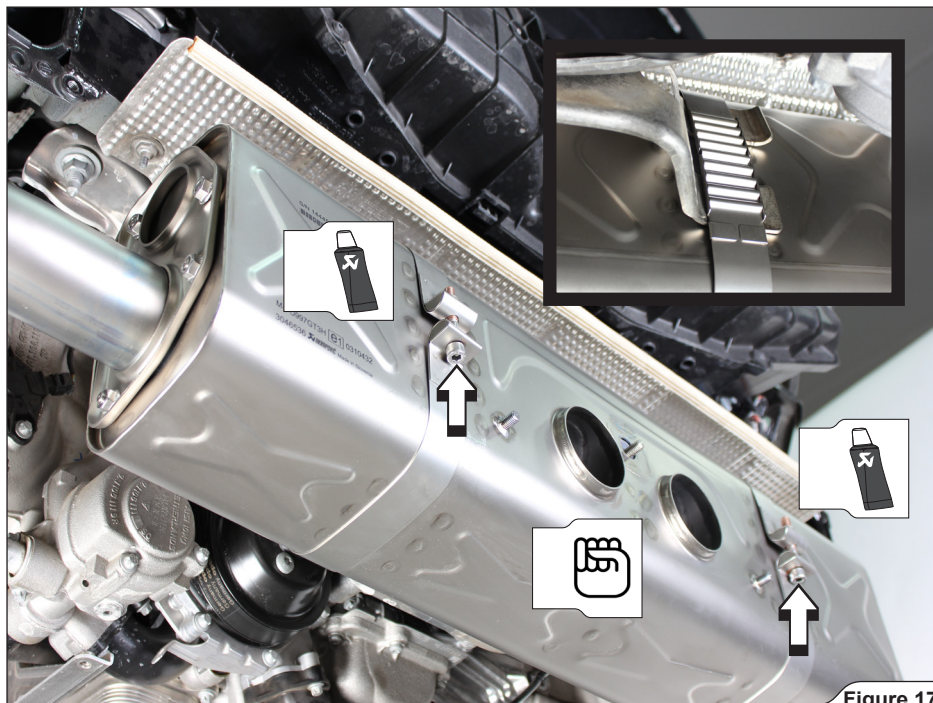

Figure 17
3. Hang Akrapovič central muffler together with link pipes onto the vehicle. Correctly attach stock clamps and hand tighten central muffler clamps and stock clamps only (**Figure 17, 18**).